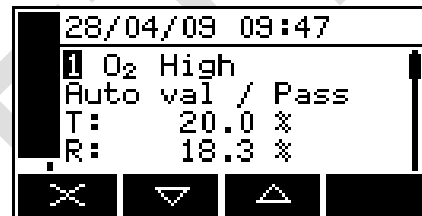

Figure 73 – The validation/calibration history screen (alternate view)
- "<date> <time>" (as in Figure 73), specifying the date and time of the displayed calibration point.